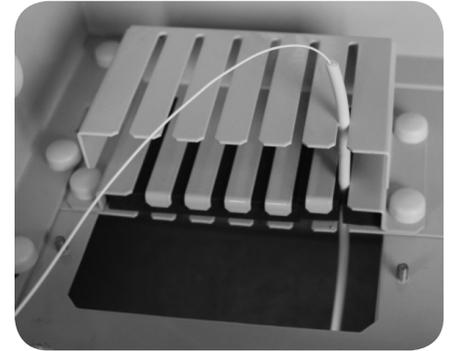

Figure 24
5. Insert the 4.8mm jacket into the drop retention bracket. **(Figure 24)**